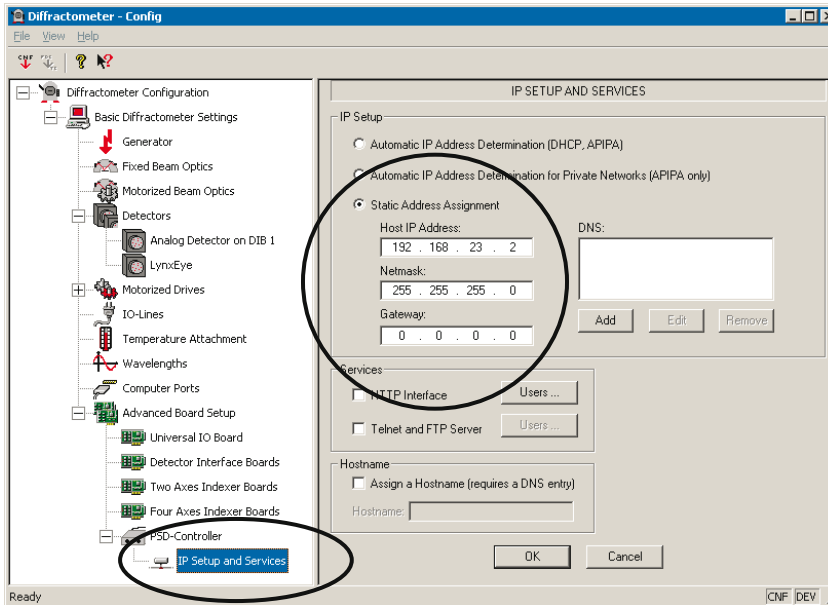

Figure 6.16 IP setup
3. Go to **IP Setup and Services** (see Figure 6.16).